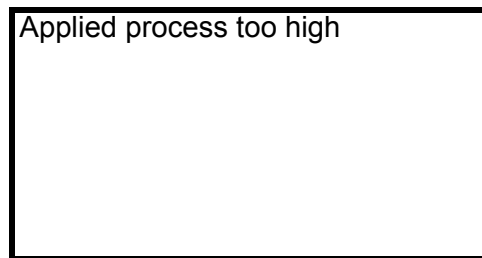

Figure 34 Zero point adjustment failure
6. If there was malfunction during zero point adjustment, a message stating that the applied process is too high will appear. (Figure 34) Select either "OK" or "ABORT" to return to the Diag/Service menu and verify that the flow fluid is completely static.